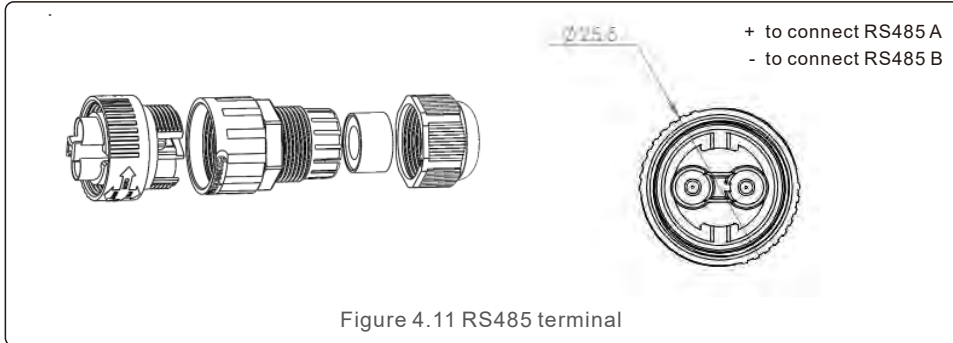

Figure 4.11 RS485 terminal
a. Refer to figure 4.11, the RS485 terminals for inverter and EPM are already assembled.
b. Refer to figure 4.11, connect communication cable between inverter with EPM, and then measure the distance from EPM to inverter. Use proper cable for RS485 connection. (0.5mm2)